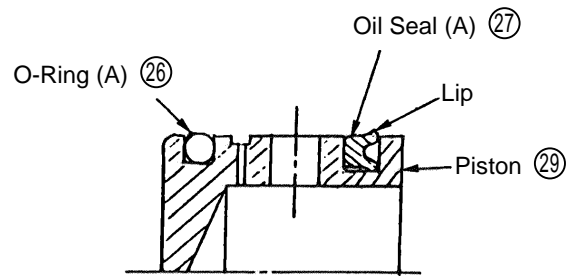

Fig. 9
(4) Mounting of Oil Seal (A) (27):
When mounting Oil Seal (A) (27) on the Piston (29), ensure that the lip portion of the Oil Seal is directed toward the rear surface of the Piston, as illustrated in Fig. 9.